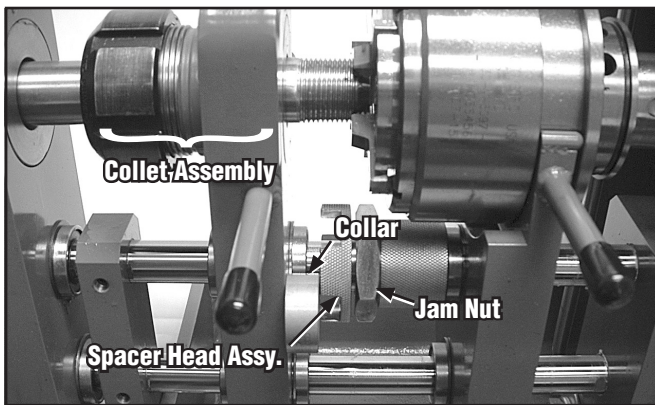

Figure 11
- 5.5.5 While holding one half of the knurled spacer head assembly, turn the other half in the appropriate direction to lengthen or shorten the spacer head assembly so a corresponding collar with the same thread size as the chasers fits snug between the inner collet yoke assembly and spacer head assembly (Figure 11).